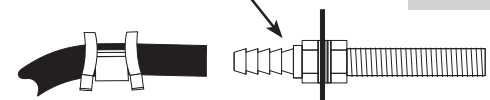

fig. 9
- Slide the air line clamp over the air line. Push the air line onto the fitting covering all barbs. Using pliers, slide the air line clamp forward until it fully covers the barbed section (Fig. 9).
9. Slide a clamp onto the air line and push the air line over the fitting, covering all the barbs. With pliers slide the air line clamp forward until it fully covers the barbed section (see Fig. 9).